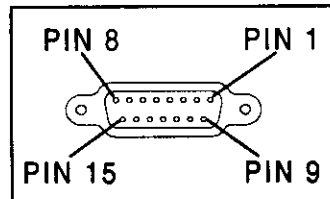

Figure 3-7. "ALARM RELAYS" DB15 Pin Numbering
- Step 6.** If required, install alarm relay wiring to female DB15 connector on IDU front panel. Refer to the Table 3-7 and Figure 3-7 for wiring details. Recommend use of 8-pair, tin-plated, PVC insulated, twisted pair, copper cable (24 gauge).